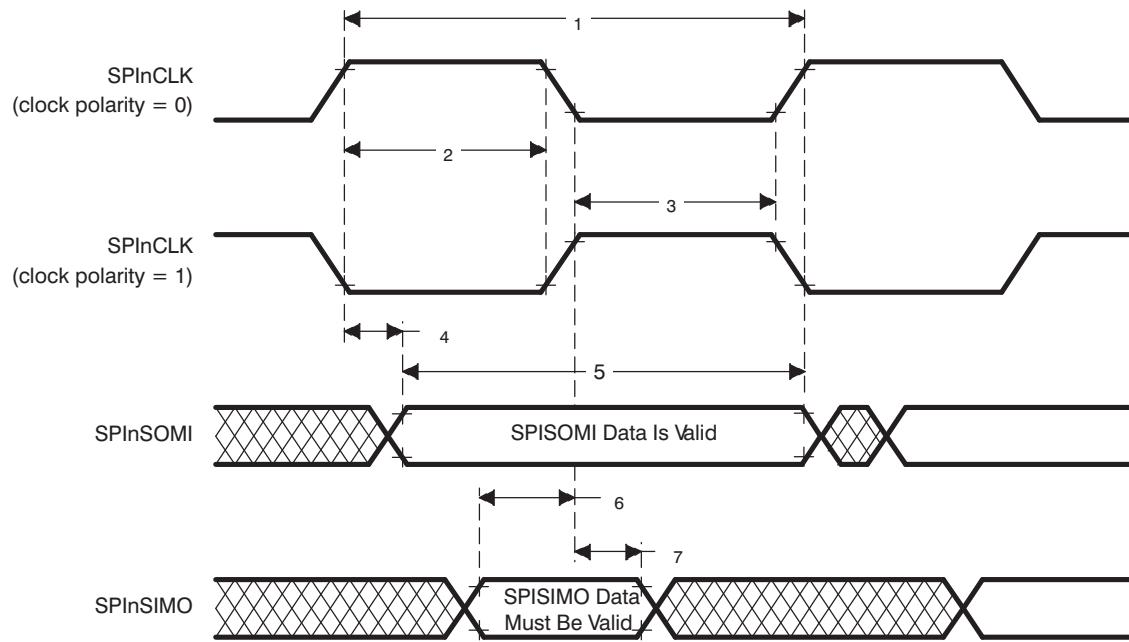

Figure 6-11. SPI Slave Mode External Timing (CLOCK PHASE = 0)
(CLOCK PHASE = 0, SPIInCLK = input, SPIInSIMO = input, and SPIInSOMI = output)^{(2) (3) (4) (5)} (see Figure 6-11)